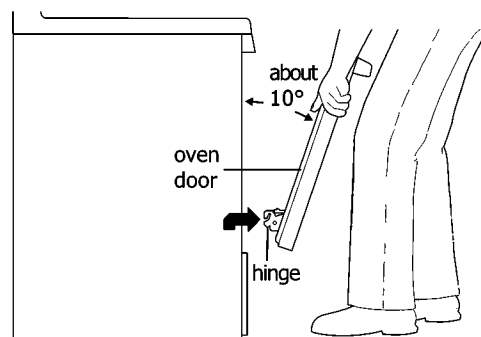

Figure 57: Holding door for removal
3. Firmly grasp both sides of oven door along the door sides. Do not use the oven door handle (Figure 57).
1. Firmly grasp both sides of oven door along the door sides. Do not use the oven door handle (Figure 57).